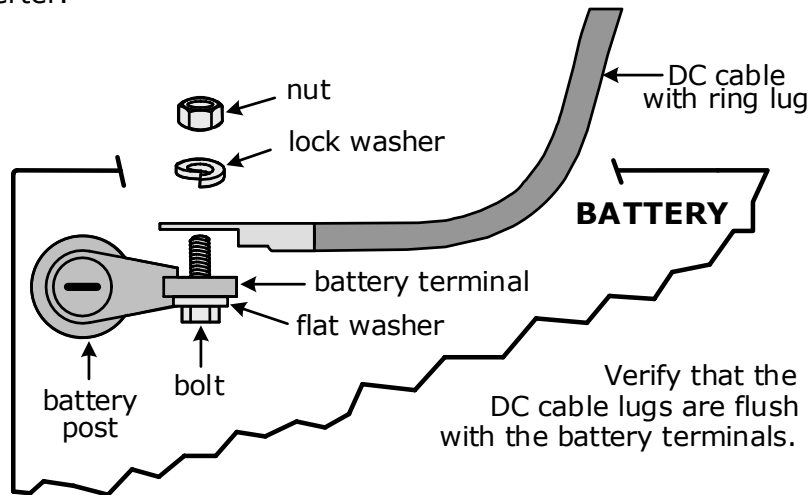
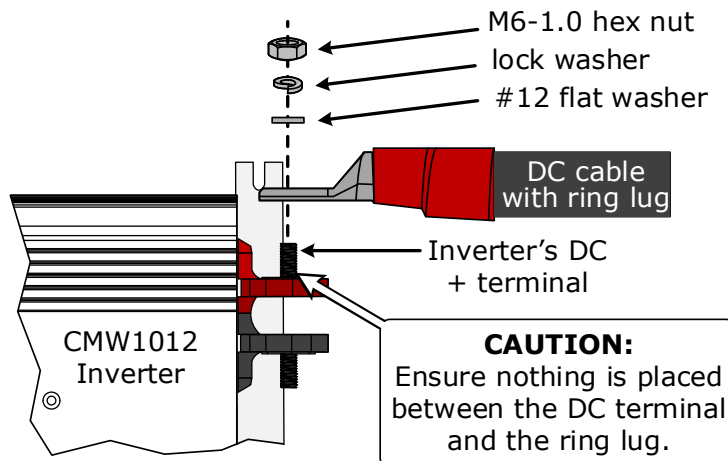

Figure 2-7, DC Cable to Battery Terminals
Figure 2-8, DC Cable to Inverter's DC Terminals
Refer to Figure 2-7 when connecting the DC wires to the battery, and to Figure 2-8 when connecting to the inverter. Also, consider the following requirements to ensure maximum performance:
Do not put anything between the battery cable ring lug and the battery post (see Figure 2-7), or the flat metal part of the inverter's DC terminal (see Figure 2-8). When connecting the battery cable, it should be placed directly against the battery post or inverter terminal. Incorrectly installed hardware causes a high resistance connection which could lead to poor inverter performance, and may melt the cable and terminal connections. See Table 2-1 for the torque requirements.
5. Ensure the DC wire connections (on batteries, inverter, and DC circuit breaker/fuse) are flush on the surface of the DC terminals, and all hardware used to hold these connections are stacked correctly (Figures 2-7 and 2-8). Verify all inverter DC connections are torqued correctly (see Table 2-1), and the total cable distance from the inverter to the battery is within the requirement of Section 2.4.1 (DC Wire Sizing).